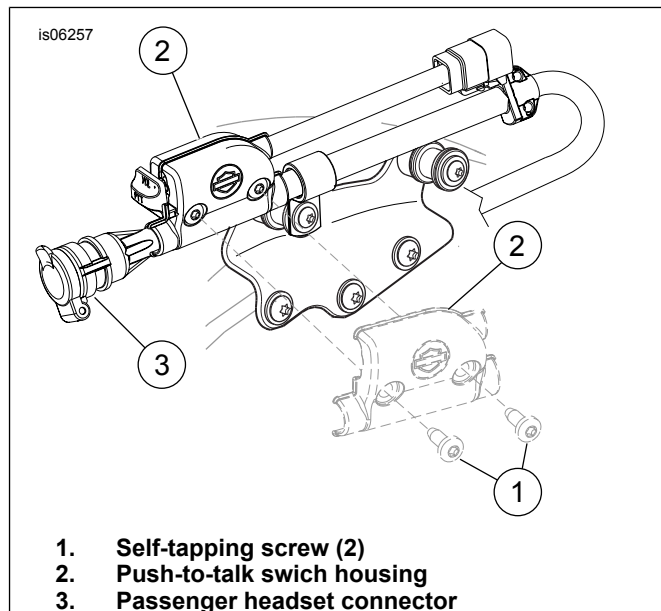

Figure 5. Install Push-to-Talk Harness
- See Figure 5. Install the push-to-talk switch housing (2) to the passenger headset plug housing (3). Position the switch housing so the knob is located close to the flip cap on the passenger headset connector.
- Install the self-tapping screws (1) into the switch housing but do not fully tighten. Determine the final location after the seat and accessories are installed.